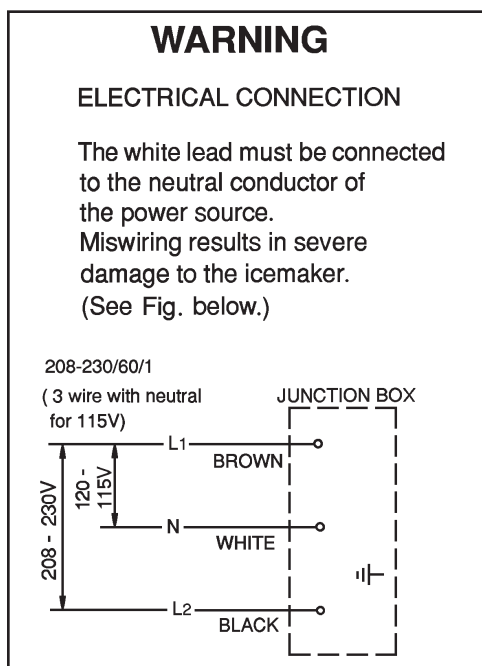

Fig. 4a
4. Electrical connection must be made in accordance with the instructions on the "WARNING" tag, provided with the pig tail leads in the junction box. See Fig. 4a and 4b.
- On single phase models, the white lead must be connected to the neutral conductor of the power source. **CAUTION! Miswiring may result in severe damage to the icemaker. See Fig. 4a.**